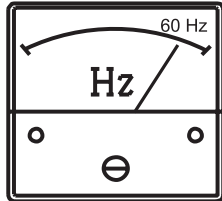

Figure 35. Frequency Meter
10. The generator's **frequency meter** (Figure 35) will display the 60-cycle output frequency in **HERTZ**.